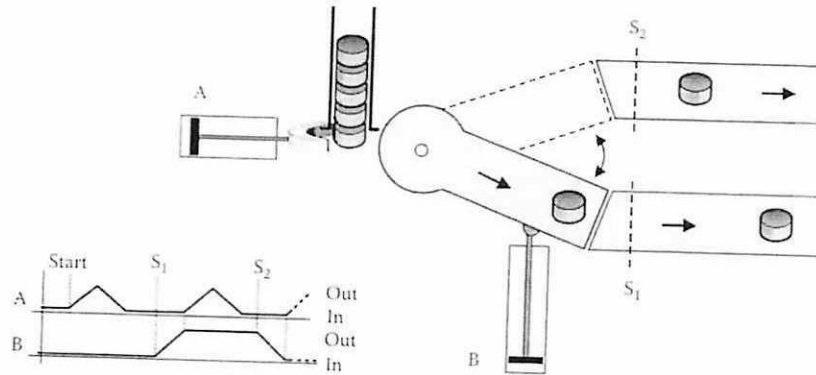

Figure Q3(b) Conveyor for separation objects
- (b) **Figure Q3(b)** shows a conveyor setup for the separation of similar objects into two parallel transportation lines, based on the simple alternative placement of objects through the moving part of the conveyor. Cylinder A pushes objects on the movable part of the conveyor, the placement of which is altered by Cylinder B. When the sensor S1 or S2 detects the passing of an object, then the change of the movable part placement can be performed according to the position-step diagram. The operation of the conveyor system starts with an instant START signal from a button. Similarly, the operation stops with an instant STOP signal from a button but only if the procedure is in the pushing phase (cylinder A in the extension stage). After selecting the required electro-pneumatic equipment (cylinders kind, directional valves, sensors, etc.), evaluate the connection statuses of the electro-pneumatic diagram and subsequently, support your answer with the required PLC ladder program.